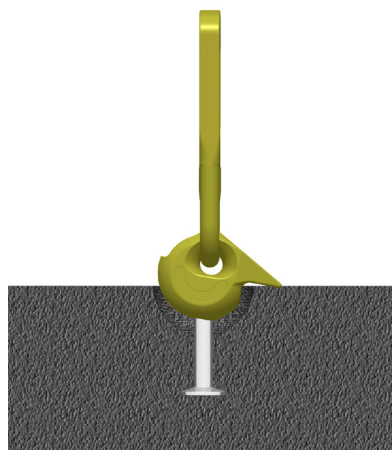

Figure 2
2. Rotate the bail until the anchor head has reached the end of the channel (Figure 2). The lip of the bail should be entirely level with the surface of the concrete as shown in the figure.
3. The CONAC Lifting Eye can then be used for a straight pull (Figure 2) or for parallel/transversal shear pulls. For parallel or transversal shear pulls, the bail lip must point in the direction of the pull.